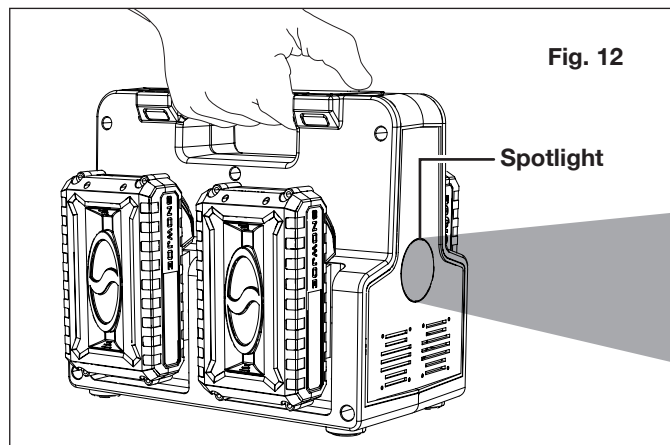

Fig. 12
3. Hold the power station by the handle to use it as a spotlight (Fig. 12).